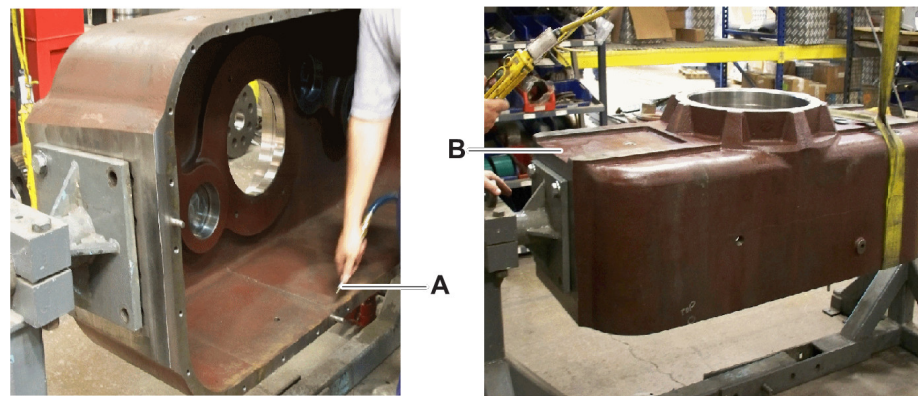

Figure 2
3. Turn the housing on its side using a strap and a hoist as shown. Use compressed air (Figure 2, item A) to remove contaminants and clean inside of the housing (item B) with paint prep thinner (S910).